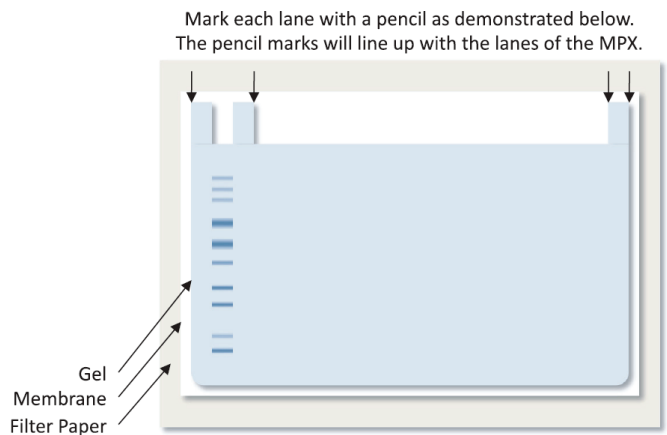

Figure 1. Mark the membrane with pencil, for later alignment into the MPX Blotter.
- Mark the outside corners of the gel and sample wells with a pencil before separating the transferred gel from the membrane, as shown in Figure 1. The marks will help you correctly align the membrane when it is placed in the MPX Blotter.